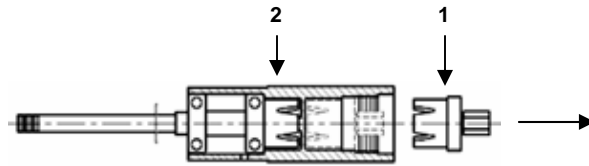

Figure 9
Step 4) Pull the Aft Bearing Assembly (1) from the back of the propeller bearing assembly (2) (it is only held in place by magnetic attraction). (Figure 9)
Remove the bearing Aft assembly and insert the sensor (Figures 9 & 10).